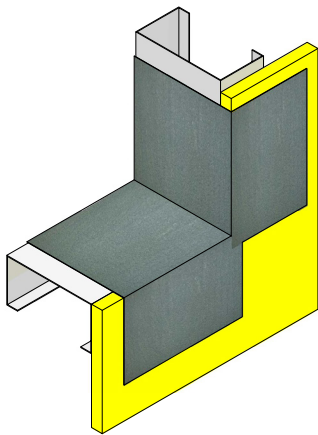

Figure 5
1. Mix Finestop RA/RS/VB per the product bulletin instructions. Apply a generous receiving coat to the corners of openings and out onto the substrate. (See Figure 5)